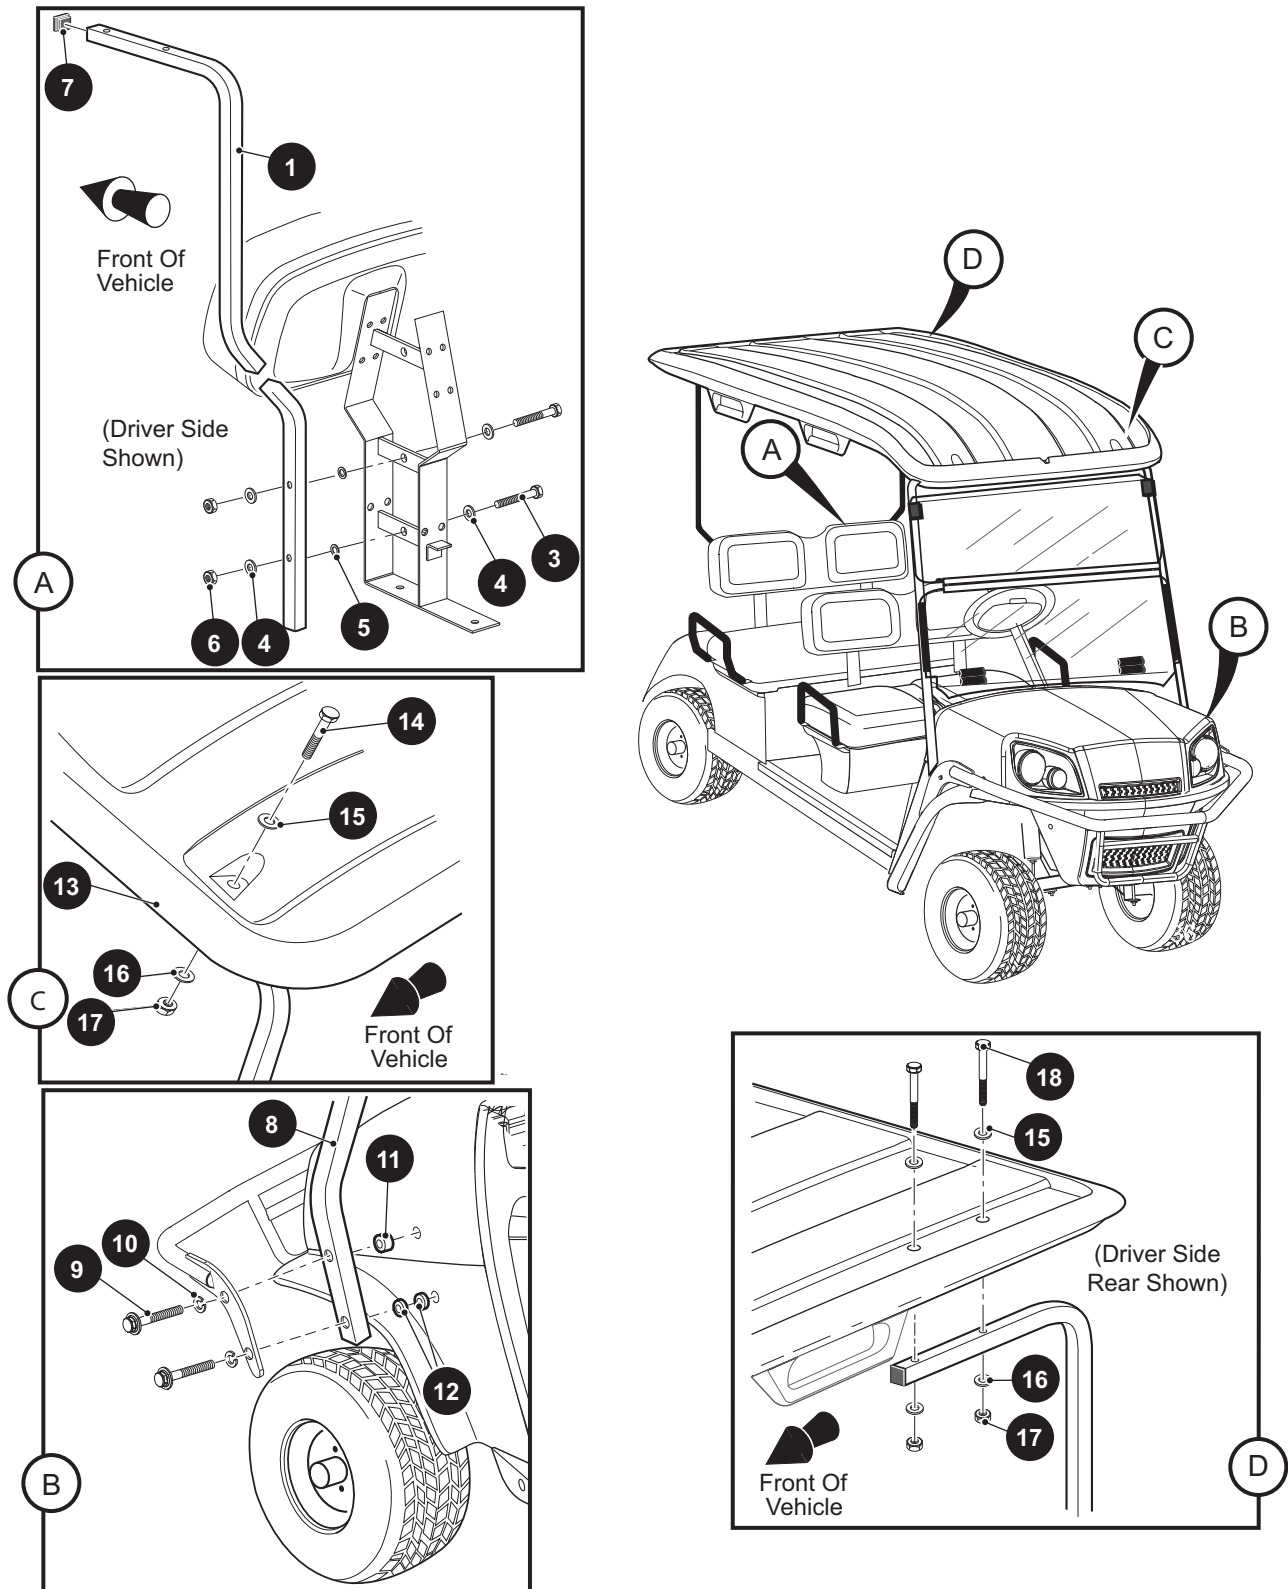

Fig. 1 Sun Top
SUN TOP (REF FIG. 1)
Tap end caps (item 7) into top of the rear support (items 1 and 2) with plastic faced mallet (Ref Fig. 1) (See Detail A).